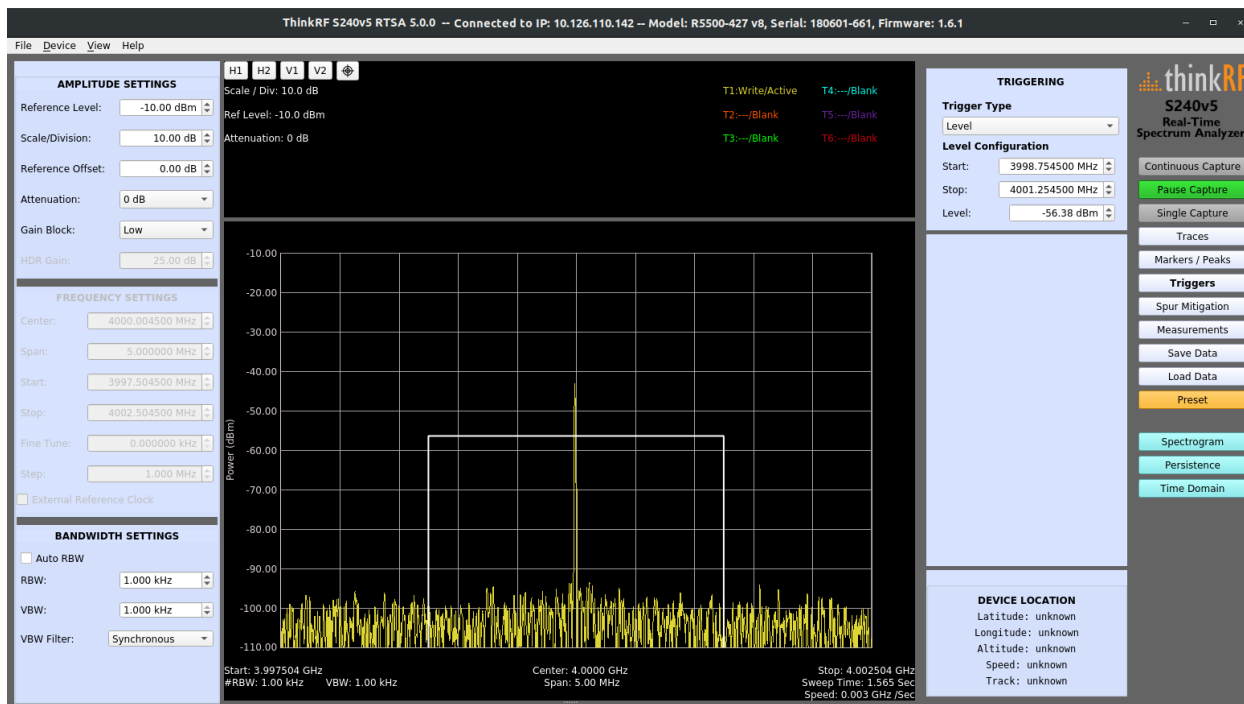

Figure 2: Level Trigger for A Signal Capture
- The Spectral Plot will also show a drag-able rectangle (see Figure 2) representing Level trigger parameters: minimum frequency (left boundary), maximum frequency (right boundary), and power level (top boundary).